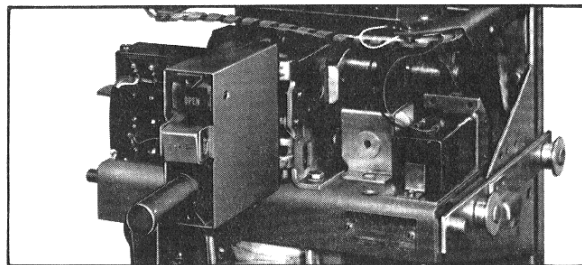

Fig. 7 Actuator Mounted and Wired on a DB-25 ACB
- 3. Using the actuator as a template, drill and tap a .190-32 hole in breaker platform and secure actuator to platform with "L" bracket in place using .190-32 x .75 screw, nut and washers. Fig. 7. DO NOT TIGHTEN.
4. Connect the black wires to the actuator using .138 nut lock and flat washers. See Fig. 7 being careful to observe polarity mark on one wire. Connect green wire to "L" bracket on actuator. Fig. 7. This now grounds the sensor star point.